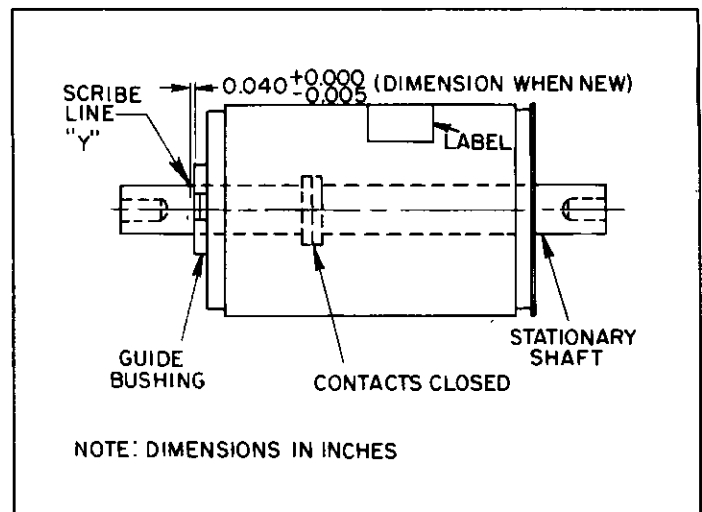

Figure 10. Inspection of vacuum interrupter for contact wear
Outlined below is the method for determining when it is necessary to replace a vacuum interrupter due to contact wear. See Figure 10.
2. On each of the vacuum interrupters there is a scribed line which indicates the allowable wear on the interrupter contacts. This line is identified as scribe line "Y" in Figure 10.